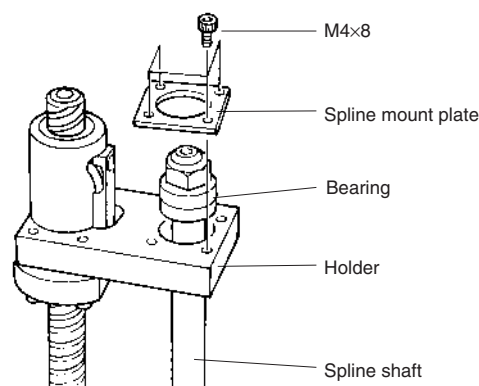
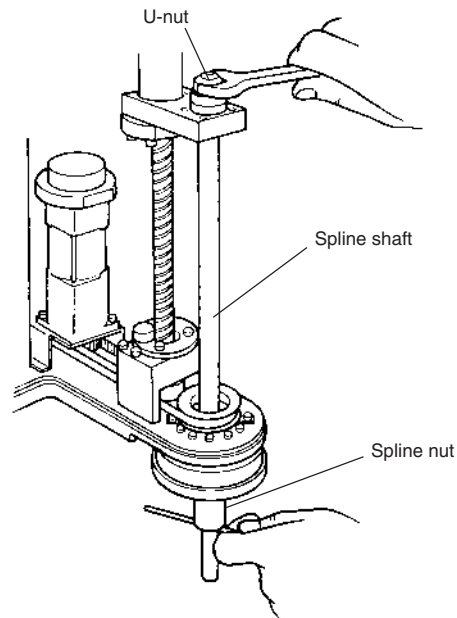

Fig. 5-11
Fig. 5-12
- 6) Remove the bolts (M4×8L, 4 pieces) securing the bearing to the upper end of the spline and remove the spline mount plate, spline and bearing from the holder. (See Fig. 5-11.)
- 7) While placing a steel rod or similar tool through the 5mm diameter hole at the lower part of the spline, loosen the U-nut at the top of the spline with the wrench, and remove the bearing. (See Fig. 5-12.)
- 22) Insert the spline into the holder, fit the bearing onto the spline and tighten the U-nut to secure the bearing. (Utilize the  $\phi 5$  through-hole when tightening the U-nut like you did to loosen it.) (See Fig. 5-11 and Fig. 5-12.)